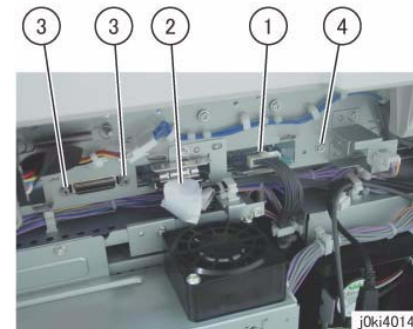

Figure 1 Disconnect the connectors
5. Disconnect the connectors at the rear side that are connected to the IIT PWB. (Figure 1)